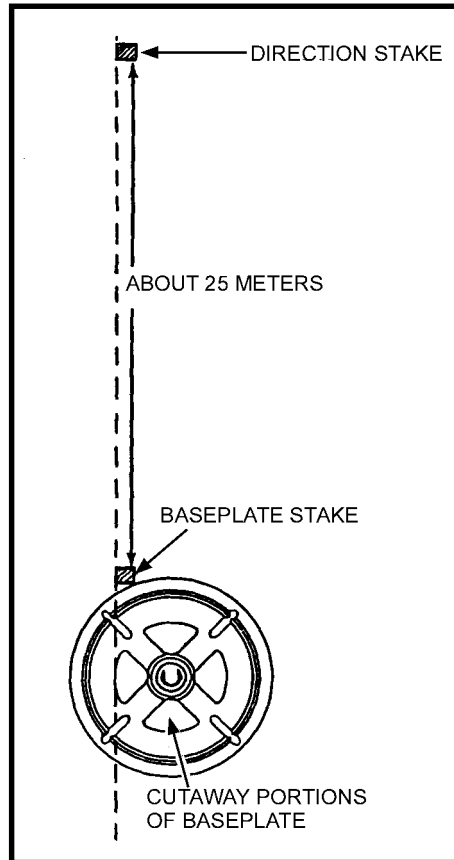

Figure 5-7. Baseplate placed against baseplate stake.
a. The first ammunition bearer places the outer edge of the baseplate against the baseplate stake, so that the left edge of the cutout portion of the baseplate is aligned with the right edge of the stake (Figure 5-7, page 5-8). He then rotates the socket cap so that its open end is pointing in the direction of fire.